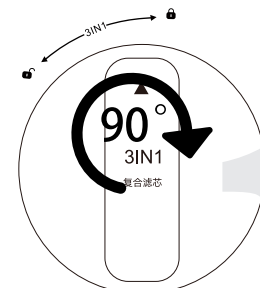

Figure 5
3. Gently press the filter cartridge and rotate it 90° clockwise, ensure the triangle icon on top of filter cartridge point at  icon **figure 5**.